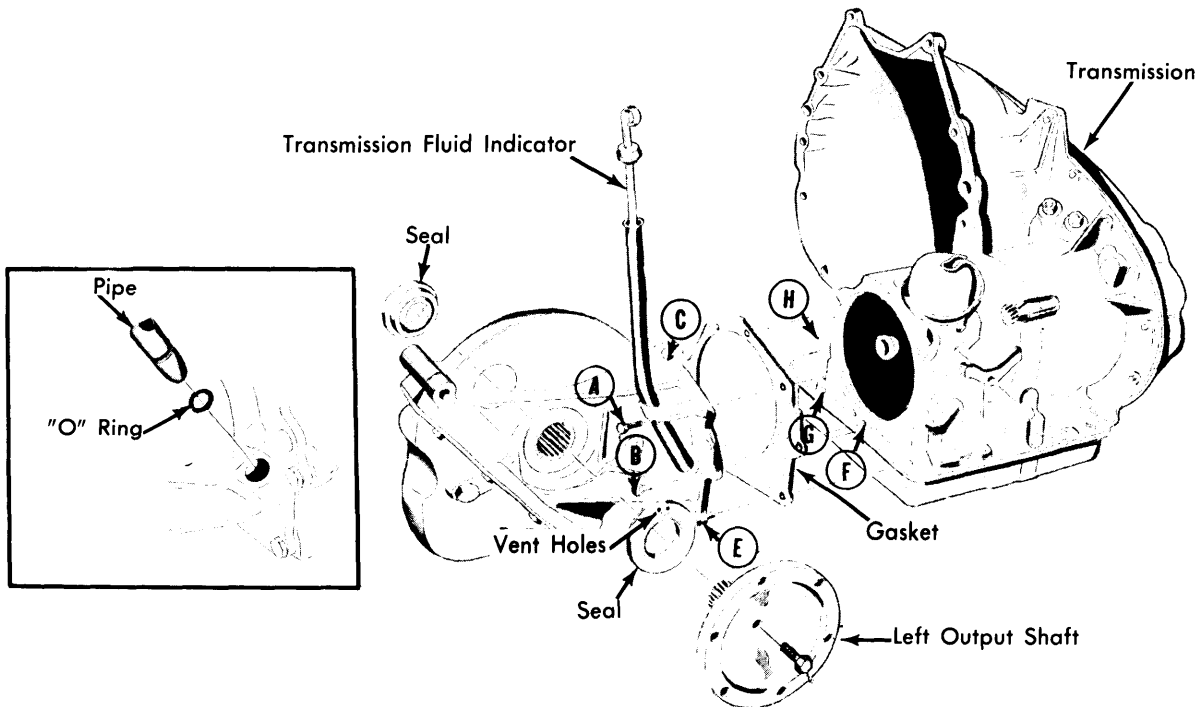

Fig. 4 General Motors Final Drive Attachment Showing Attaching Bolt Locations
Removal — 1) Disconnect negative battery terminal, then remove transmission filler tube. Remove bolts "A", "B", and "C", (refer to Fig. 4 for bolt location), securing upper part of final drive housing to transmission housing. Hoist vehicle, then support at front frame side rails. On Toronado models, remove oil filter element. On Eldorado models, remove screw securing cooler lines and clip to support bracket.
2) Disconnect drive axles from output shafts, then remove right output shaft. Remove bolt securing final drive support brace to engine mount bracket. Remove final drive cover and allow lubricant to drain, then position suitable lifting device and adapter on final drive assembly. Remove bolts "E", "F", "G" and "H" (refer to Fig. 4 for bolt location), then disengage final drive from transmission. Lower final drive assembly out of vehicle.
2) Install bolts "E", "F", "G" and "H" (refer to Fig. 4 for bolt location) and tighten. Install bolt securing final drive support brace to engine mount bracket. Install final drive cover with new gasket. Complete installation by reversing removal procedures. After vehicle is lowered, install bolts "A", "B", "C" (refer to Fig. 4 for bolt location) and tighten.